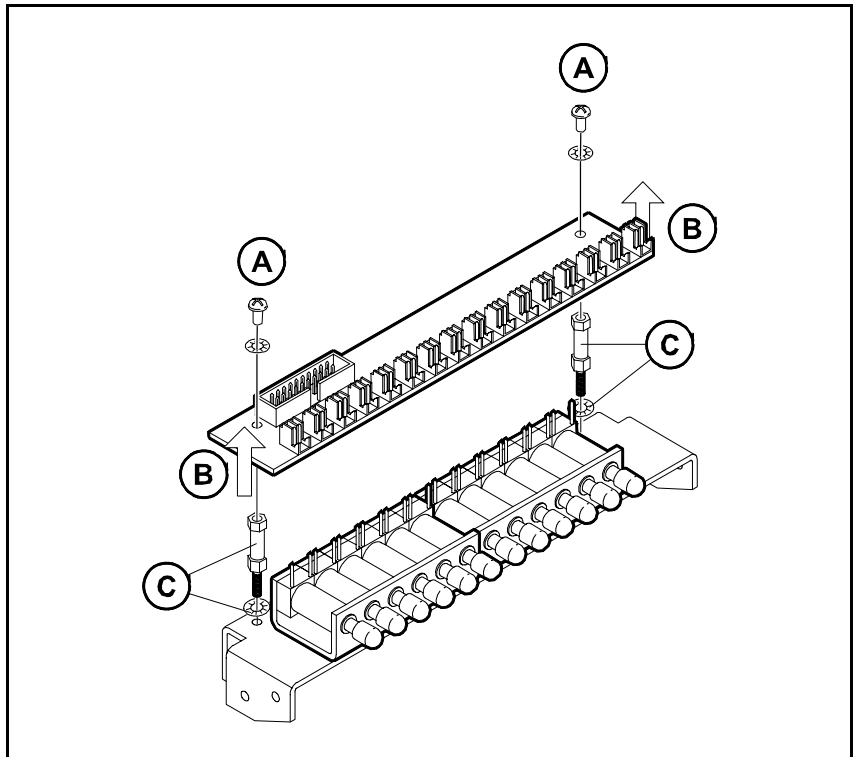

Figure 5. Solenoid bar
9. On the solenoid bar, undo the two screws on the TMC board ('A' in Figure 5).
10. Carefully, remove the TMC board by pulling it up **alternately** at the board ends (B).